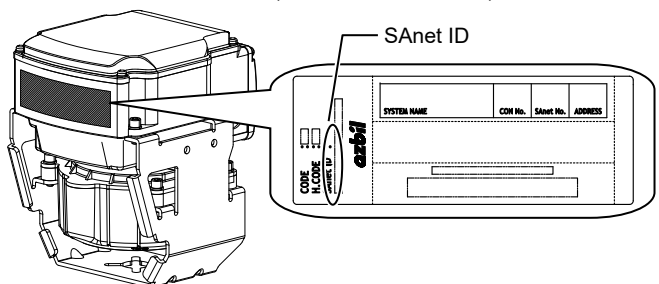

Figure 12. SAnet ID on the product code label
2. With Data Setter or PC-MMI, enter the SAnet ID (on the product code label) and address number to set. The product code label is attached on the side surface of the actuator, as shown in Fig. 12.